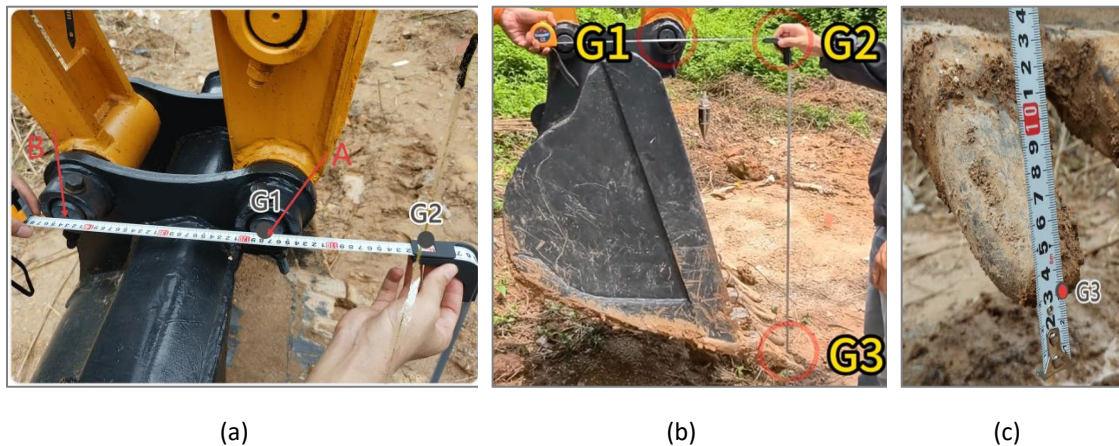

Figure 3-78
- ② To measure **G1**, **G2**, and **G3**, use a tape measure with an auxiliary measuring tool, as shown in Figure 3-77(a). Roughly measure the vertical distance from the **A**-pivot to the bucket tip with the tape measure (e.g., estimate it as 84 cm), then adjust the midpoint of the right-side window on the auxiliary measuring tool to a round number on the tape measure (e.g., 90 cm), as shown in Figure 3-77(b). Align the upper end of the tape measure with the **A** and **B** pivot axes, and let the other end hang straight down (slightly longer than the bucket tip). Slowly shift the tape measure toward the **B**-axis until the lower end just touches the bucket tip. Read the corresponding scale on the tape measure at the **A**-pivot as **G1** (Figure 3-78(a)), the value at the upper opening of the auxiliary measuring tool as **G2** (Figure 3-78(b)), and the intersection of the line connecting the left and right bucket tips with the tape measure as **G3** (Figure 3-78(c)).